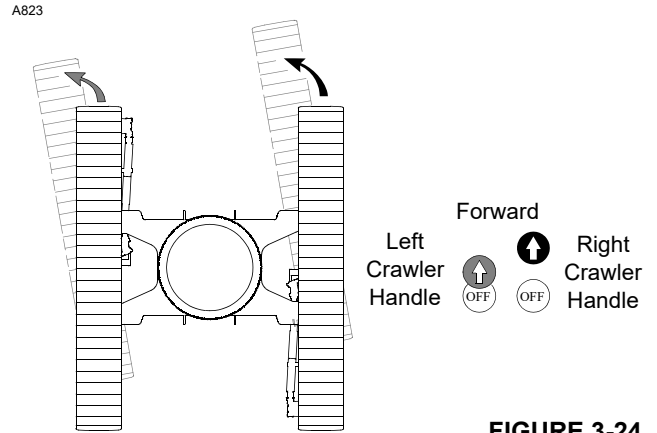
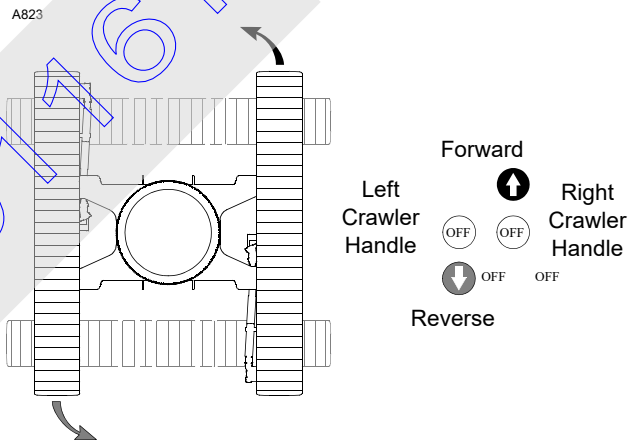

FIGURE 3-24
FIGURE 3-25
- Make gradual turns (Figure 3-24) or counter-rotate (Figure 3-25) whenever possible so both crawlers are always powered.
- To make a GRADUAL LEFT TURN (Figure 3-24), move both crawler handles to front from off, but move right crawler handle farther to front than left crawler handle; right crawler will turn faster than left crawler.
- To COUNTER-ROTATE LEFT (Figure 3-25), move right crawler handle to front from off and move left crawler handle to rear from off.